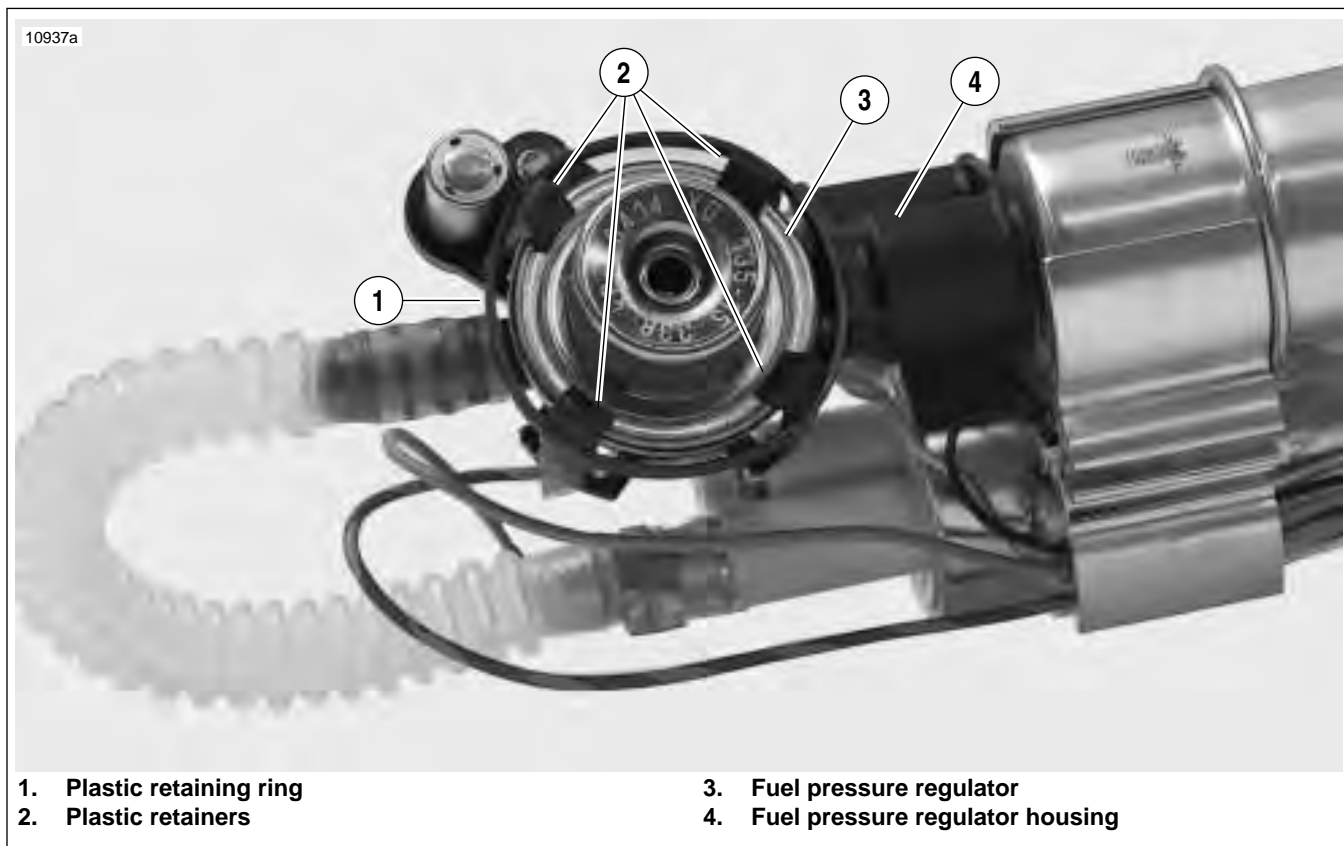

Figure 4-95. Fuel Pressure Regulator
2. See Figure 4-95. Remove the plastic retaining ring (1) securing the four plastic retainers (2) holding the fuel pressure regulator (3) in place. Spread the four clips and detach regulator (3) from regulator housing (4).
5. Install plastic retaining ring (1).